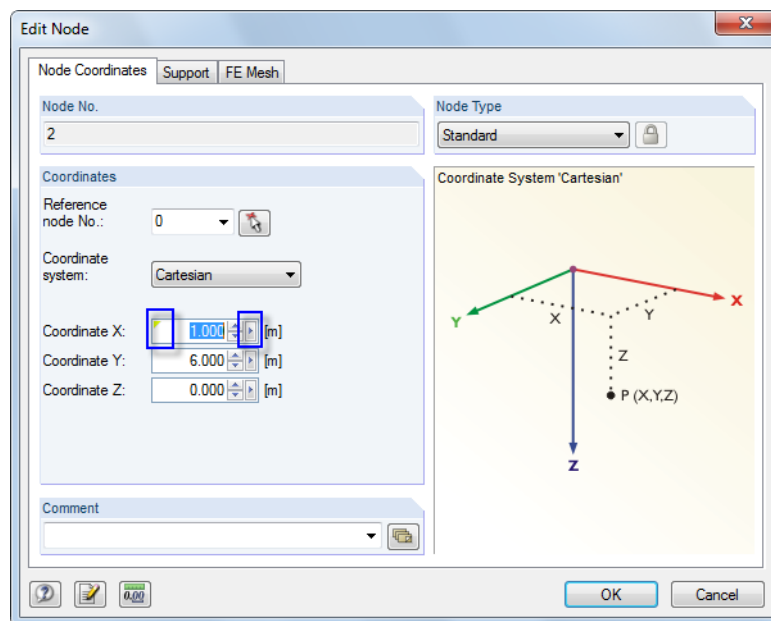

Figure 11.139: Dialog box with linked formula and function button
- use the function buttons next to the input fields in dialog boxes (see Figure 11.139).